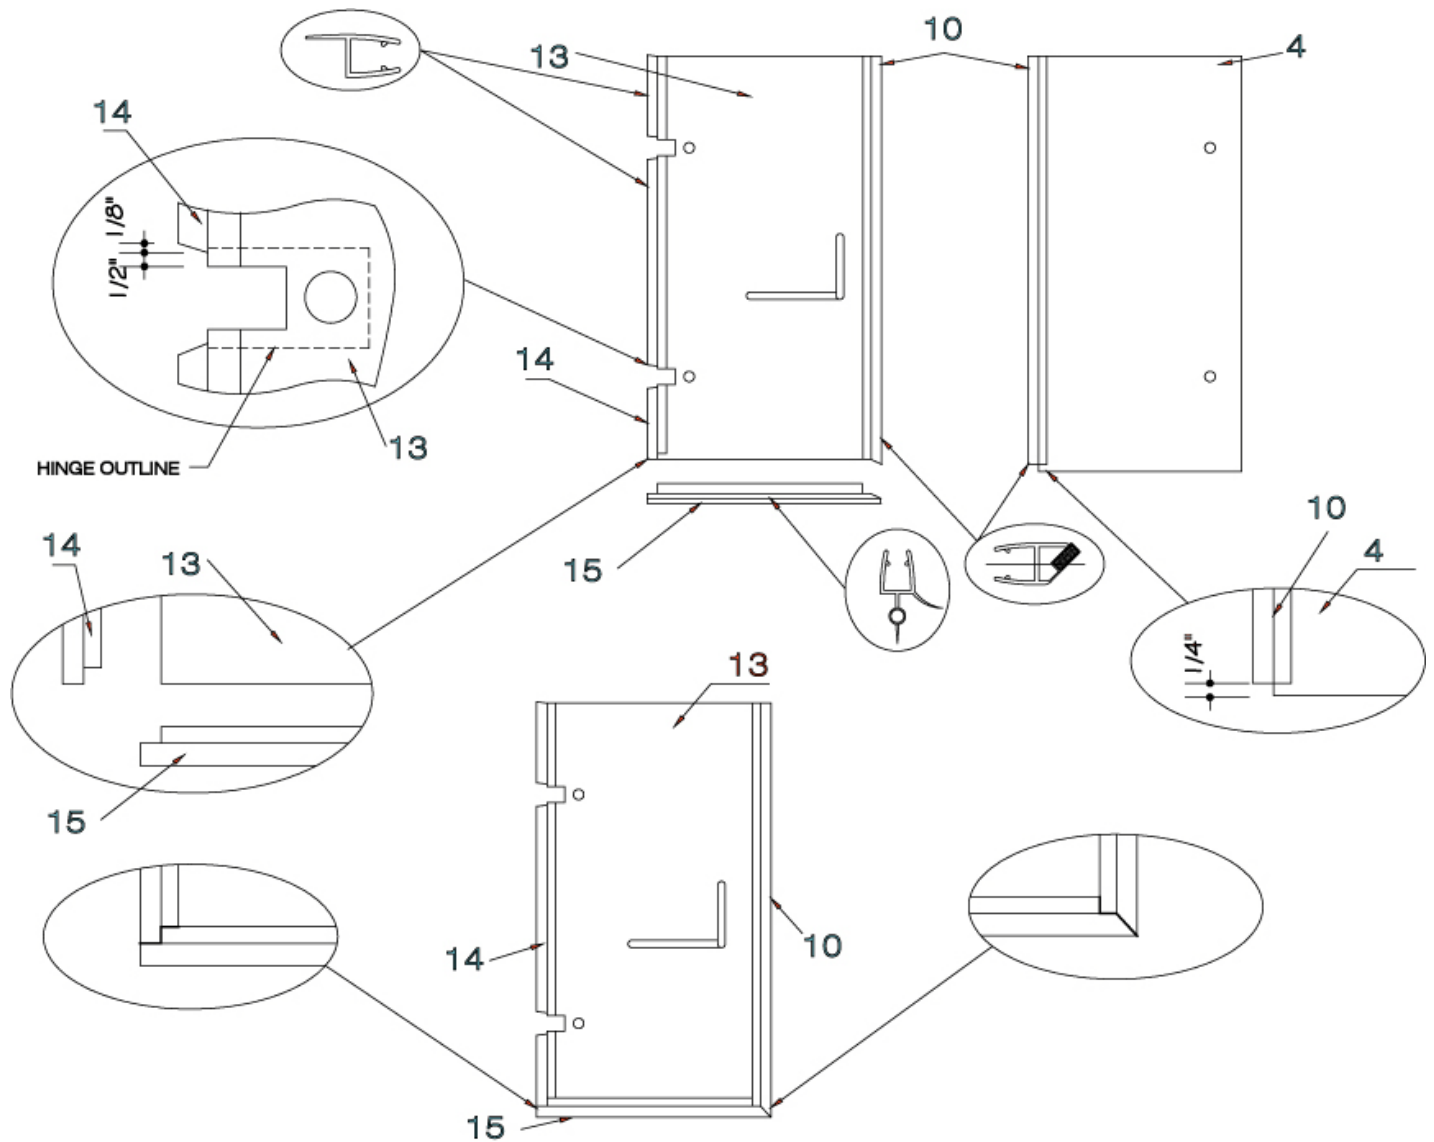

FIG.7 SEAL STRIP INSTALLATION
1. Clean all glass panel edges receiving seal strips with rubbing alcohol. [SEE FIG.7]
2. Cut seal strips (#14, #15) according to seal strip diagram (FIG.7).
4. Install seal strips according to seal strip diagram (FIG.7).